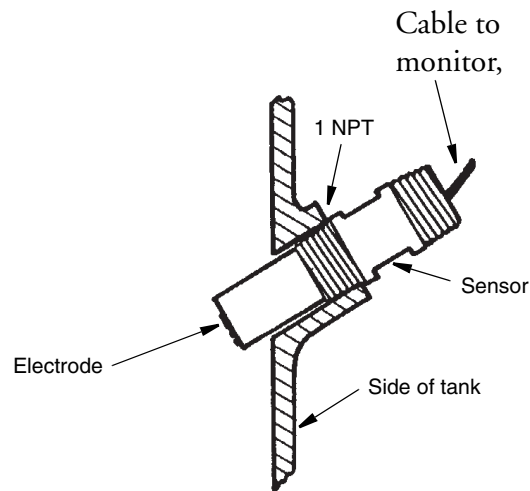
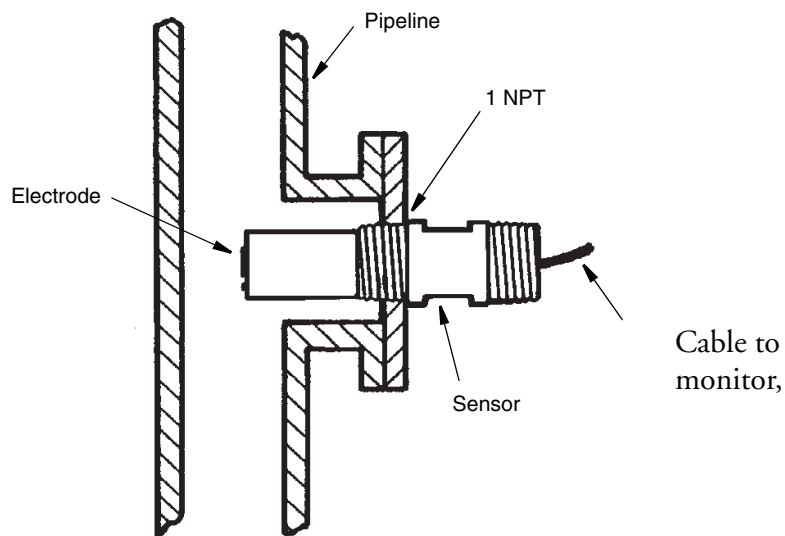

Figure 3. Side of Tank/Vessel Mounting
Figure 4. Pipe Mounting
2. Insert the sensor into the tank/vessel (Figure 3) or pipe (Figure 4) and tighten to a maximum torque of 31 N•m (23 lb•ft).